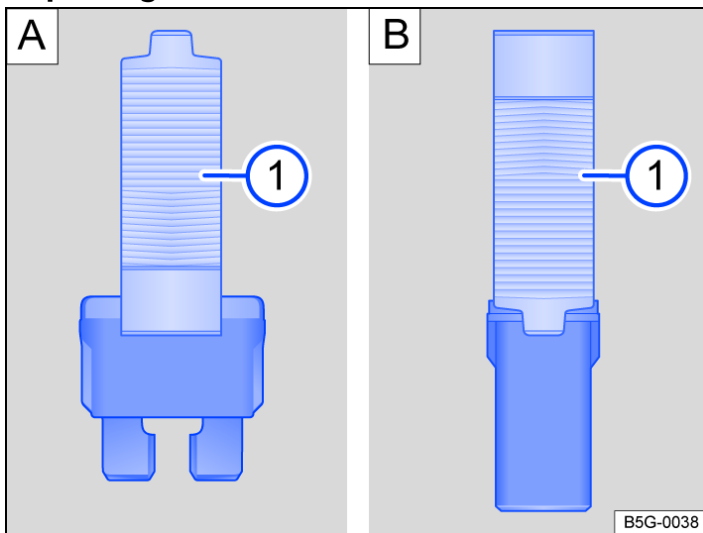

Fig. 2 Remove or install a fuse with the plastic pliers (general example).
① Plastic pliers.
1. Remove plastic tongs from either the fuse box or the cover of the fuse box → fig. 2 ①.
2. Depending on the design of the fuse, slide the appropriately sized clamp on the plastic pliers onto the fuse from above or from the side → fig. 2.